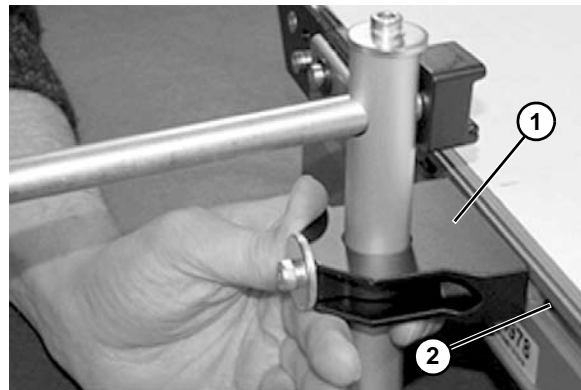

Figure 21
1. Install guide bracket assembly (Figure 21, item 1) into the conveyor t-slot (Figure 21, item 2).